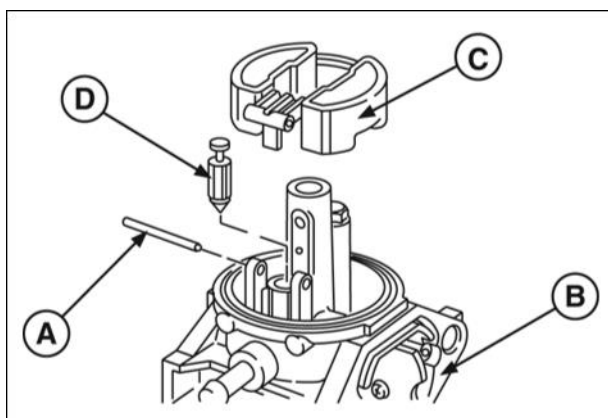

Figure 6
2. Drive out float hinge pin (A, Figure 6) from choke plate side of carburetor (B) with a small punch. Remove float (C) and fuel inlet valve (D).